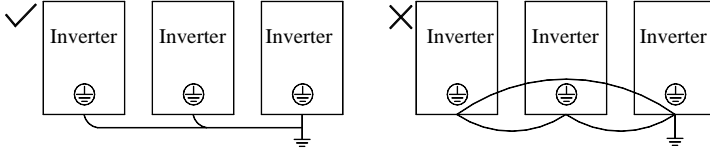

Figure 3-11 Ground Wiring
- Do not form the grounding cable as a circuit whenever two or more inverters are used synchronously. See Figure 3-11 for the correct and incorrect grounding wirings.